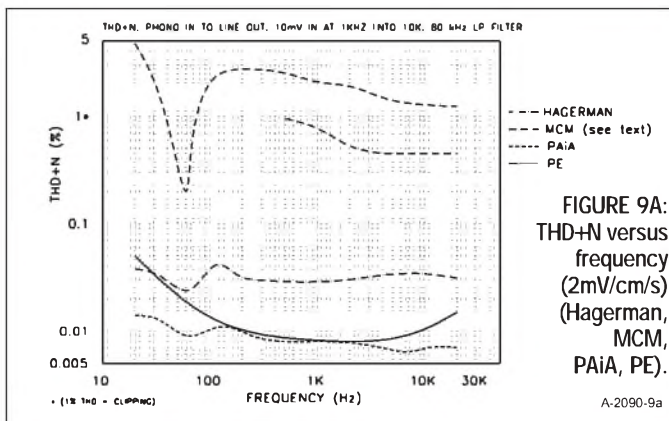

FIGURE 9A: THD+N versus frequency (2mV/cm/s) (Hagerman, MCM, PAiA, PE).
*Figures 9A and 9B* show THD+N versus frequency at a reference input level of 2mV/cm/s, while *Figs. 10A and 10B* show THD+N versus output voltage at 1kHz. Again, the data is presented in two graphs for better clarity.
The THD+N versus frequency (2mV/cm/s input level) is shown in *Fig. 9A*. Initially, I saw 0.12% THD at 1kHz (in the higher left channel). However, when I connected the inverse RIAA network chassis to the preamp ground screw, it dropped to 0.03%. The distortion residual showed low-level noise with no discernible harmonics.
The THD+N versus frequency (2mV/cm/s input level) is shown in Fig. 9A. I took one reading at exactly 60Hz, where it was 0.2%. This is because the fundamental notch filter removes the 60Hz hum as well as the oscillator signal.
The THD+N versus frequency (2mV/cm/s input level) is shown in Fig. 9A. Initially, the THD at 1kHz (in the higher right channel) was 0.13%. When I connected the inverse RIAA network chassis to the preamp ground post, it